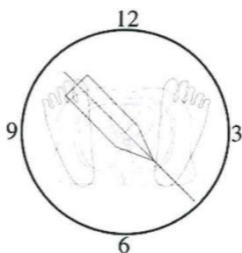

Fig. 2
- Adjust the needle pointer so that the needle is perpendicular to the fossa ovalis (typically between 3:00 and 5:00 o'clock, as viewed from the foot end of the patient). (See Fig.2. Magnification is 2.9).